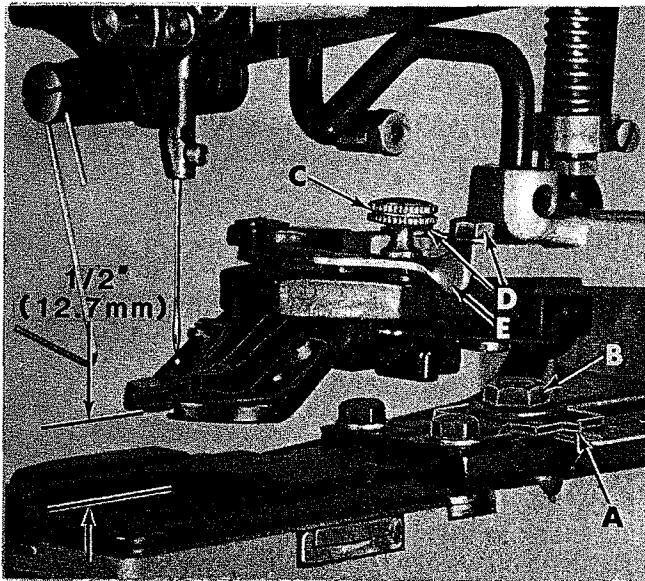
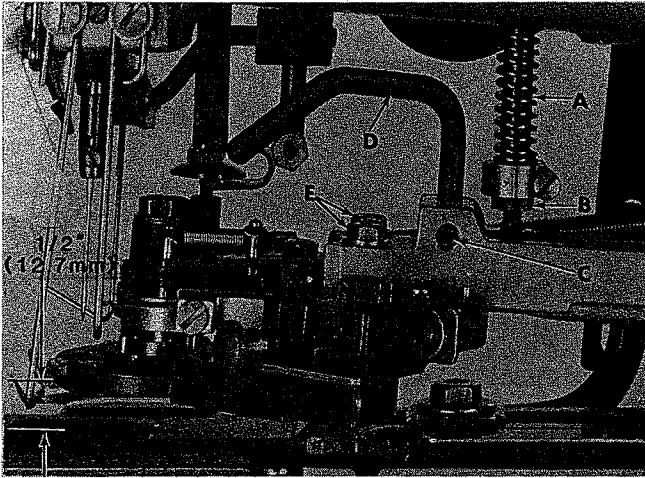

Fig. 32
Fig. 34
Measure the distance between the two holes of the button (from center to center). Then set the indicator (A, Fig. 32) to corresponding dimension on the graduated scale by loosening nut (B). Move selector lever (A, Fig. 33) at rear of the machine to the two hole position (B).
**NOTE:** The stitch can be tightened on buttons having large holes by decreasing the lateral clamp travel—set indicator (A, Fig. 32) to a smaller dimension on the graduated scale.
Now, place a button into the clamp jaws (200-45) or button holder (200-38) so that the button holes correspond to the needle travel across the arm. Engage the machine into RUN POSITION and rotate the pulley in operating direction until the needle has penetrated all the holes in the button. The needle should enter the center of each hole. The button clamp may be shifted slightly to obtain this condition by loosening screws (D, Fig. 32) on 200-45 or (E, Fig. 34) on 200-38. It may also be necessary to deviate slightly from the graduated scale dimensions previously used.
Machine is in STOP POSITION. The button clamp or holder should be adjusted so that the bottom is approximately 1/2 inch (12.7 mm) from the feed plate, (See Figures 32 and 34).
Loosen set screw (C, Fig. 34) and raise or lower rod (D) as required. Now engage machine into RUN POSITION. The clamp in down position must contact the feed plate and there should be clearance between the lifting rod (D) and the roller.
The stop pin is located inside the clamp tension spring (A, Fig. 34).
Loosen locknut (B, Fig. 34) and turn the lower section to lengthen or shorten the pin. Tighten locknut (B).